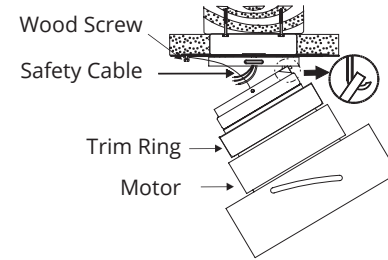

FIG.14
Receiver to house supply wires electrical connections: **(FIG. 14 & 15)**
1. Lift motor assembly and hang it on the hook of mounting bracket using one of the screw holes **(FIG. 14)**.
2. Secure the safety cable to the building structure using wood screw **(FIG. 14)**.
3. Connect the fan assembly ground wire, mounting bracket ground wire and receiver ground wire to the ground wire in outlet box **(FIG. 14)**